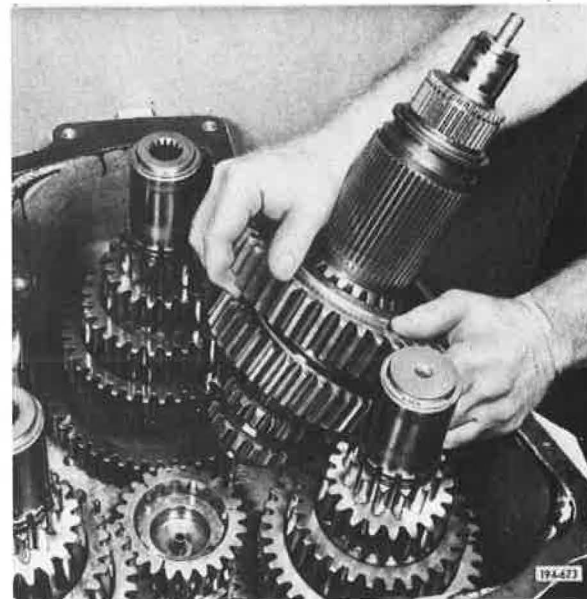

Figure 5-704. Removing Front Mainshaft Assembly
9. Remove front mainshaft assembly. See **Figure 5-704**.